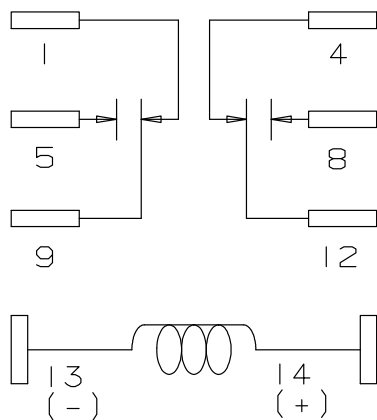

FIGURE 1
Use this instruction when replacing an older style 24L3101 relay. The older relay style is shown in figure 1.
- 2- Mark all existing wiring with terminal numbers shown in figure 1.